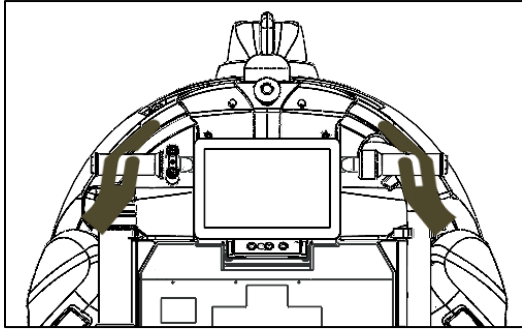

Fig. 1
- Moving the REXSCRUB manually: place both hands on the handle bar, twist the throttle to move forward (Fig. 1).